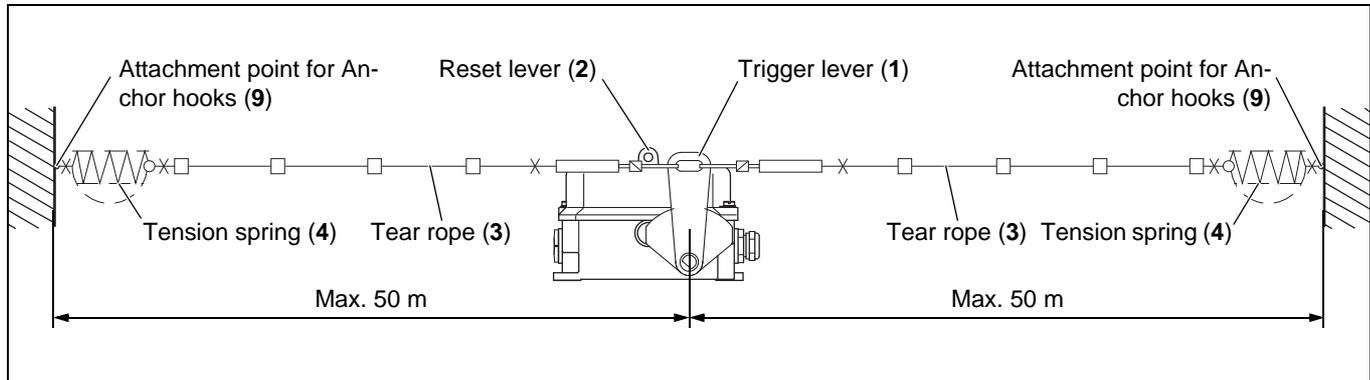

Fig. 3-1: Function
The Trigger lever (1) for the pull-rope emergency stop switch is actuated via a Tear rope (3) which is stretched along the conveyor system (see fig. 3-1).